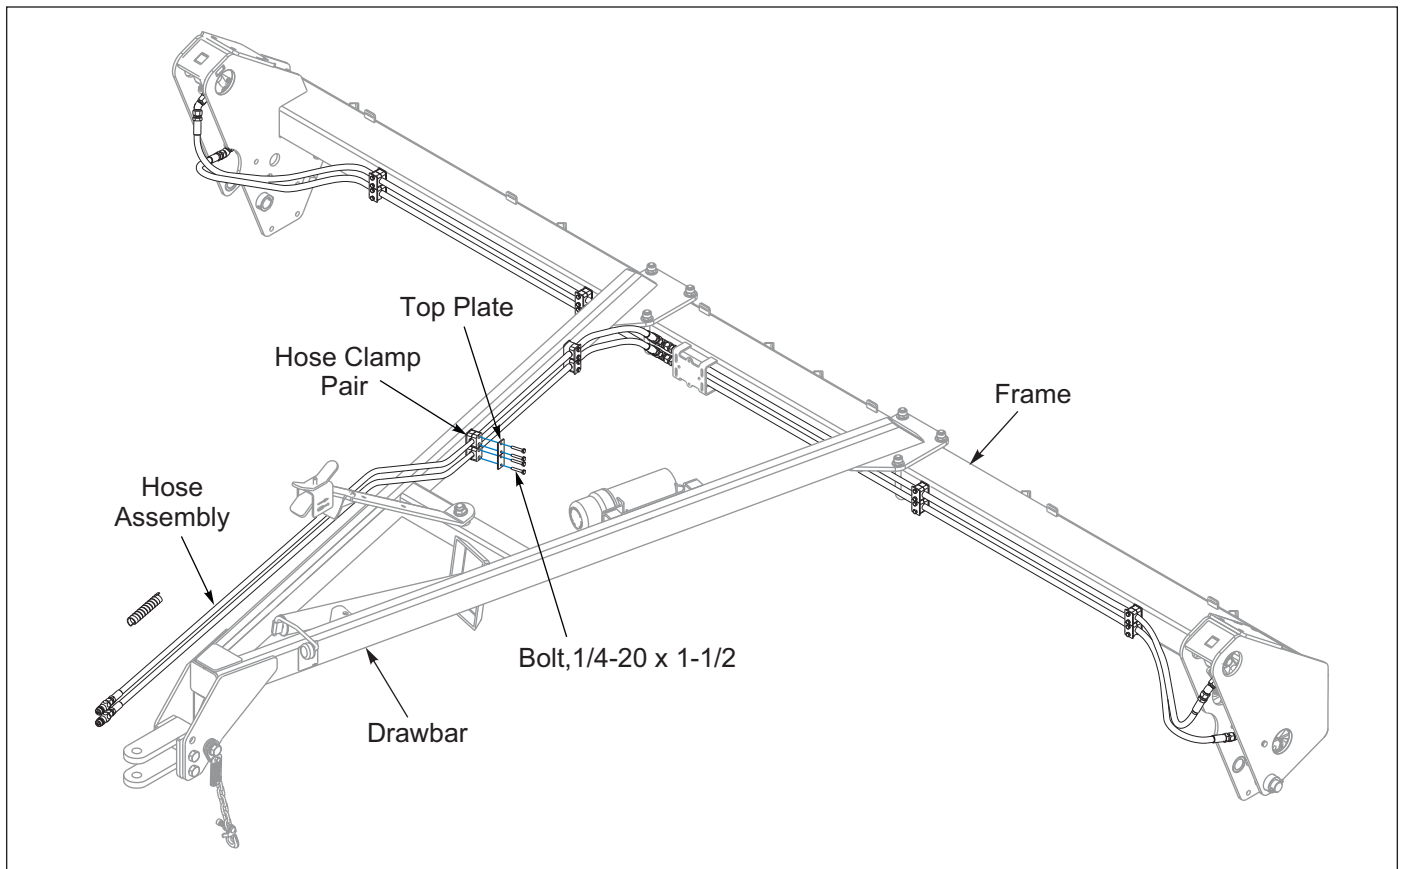

Figure 2-15: Drawbar Hydraulic Hoses (After 08/2025)
2. Route the Drawbar Hydraulic Hoses along Drawbar toward the Tractor. Secure Hoses to Drawbar with Hose Clamp Pairs, Top Plate and 1/4-20 x 1-1/2 Bolt. **See Figures 2-15 and 2-16.**